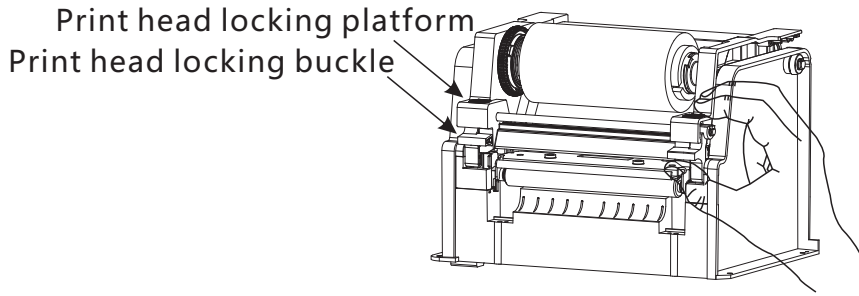

Figure9
2.7.4 As shown in Figure 9, pinch the print head locking buckles at both ends of the print head to open the print head module.